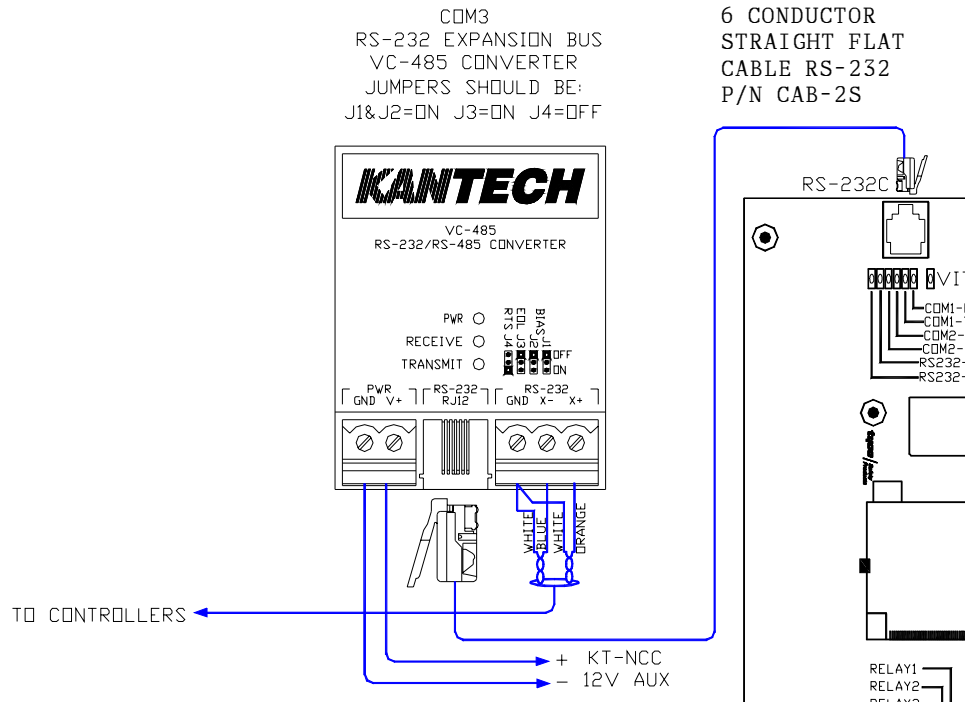

Figure 5. RS-232 Connection
2. The RS-232 connection is demonstrated in Figure 5 below. A straight flat cable (included in the accessory kit), connects from the RS-232 connector on the top of the KT-NCC board to a VC-485.